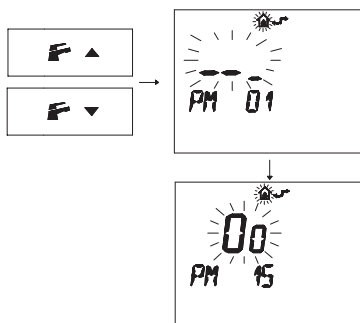

Fig. 8.3
- Press buttons  $\mathbb{F}$   $\blacktriangledown$  or  $\mathbb{F}$   $\blacktriangle$  to display the "PM15" program that enables the external probe (Fig. 8.3).